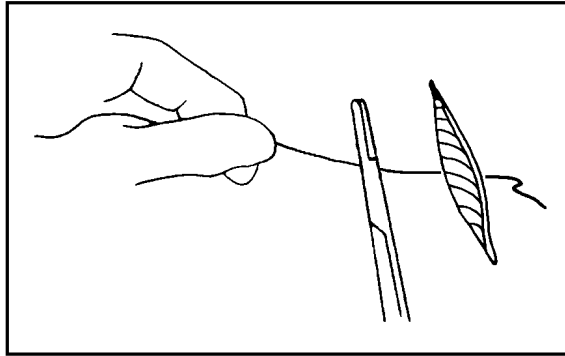

Figure 3-30
- i. Place the needle holder parallel to the wound between the ends of the suture. (See Figure 3-30.)